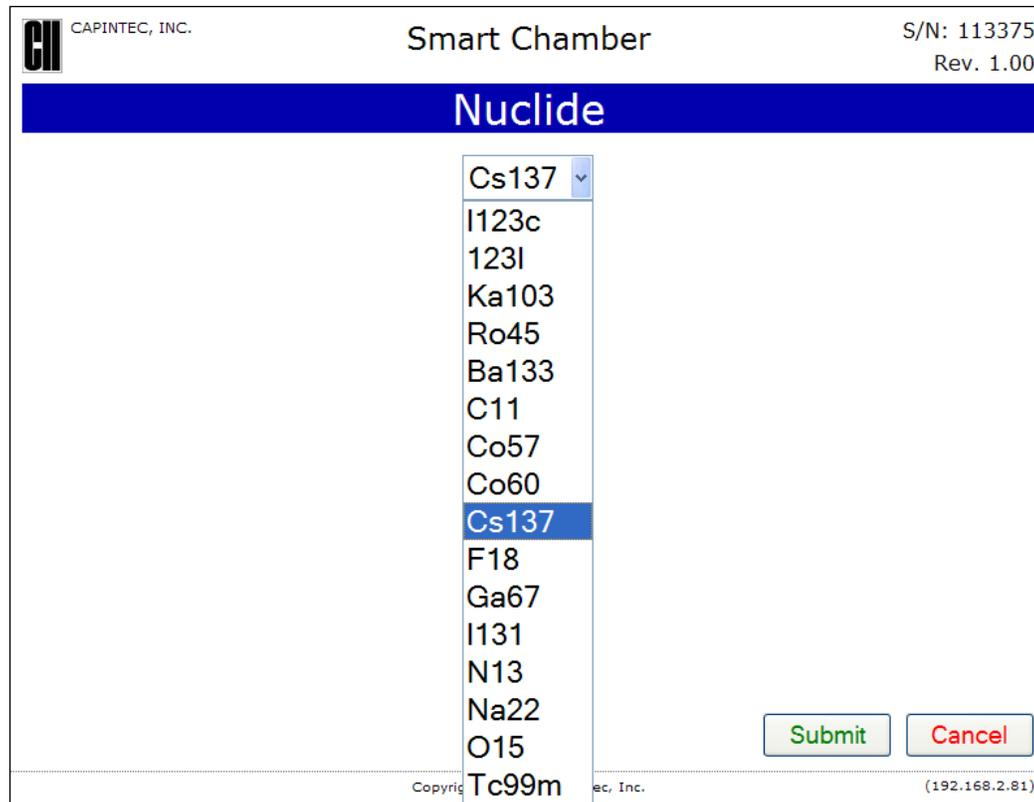

Figure 10-2 Select Nuclide Screen
- Specify the nuclide by clicking anywhere within the colored area surrounding the current nuclide name. The Nuclide screen will appear. Clicking in the Nuclide Name drop-down list will present a list from which the desired nuclide can be selected. This is shown in Figure 10-2 Select Nuclide Screen.